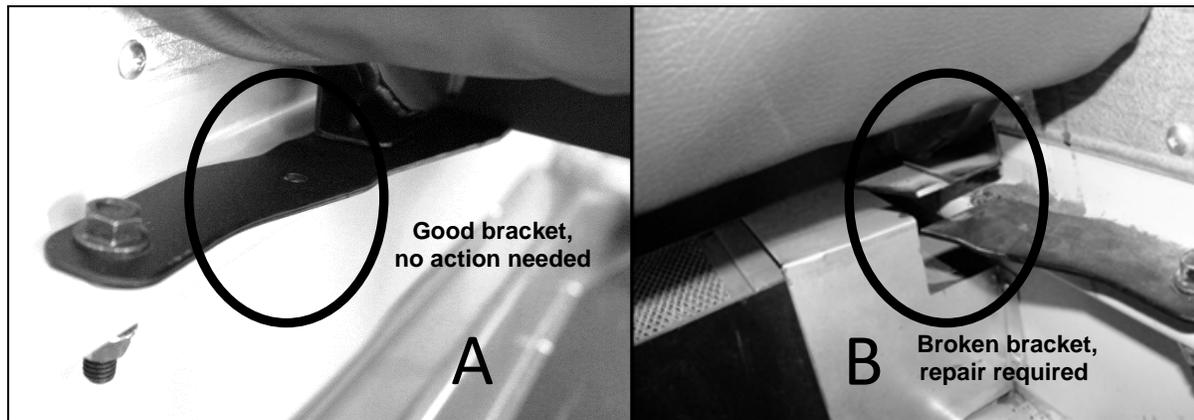

Figure 3
2. Is the bracket intact? Is the bracket cracked or broken? See **Figure 3, Items A and B**.